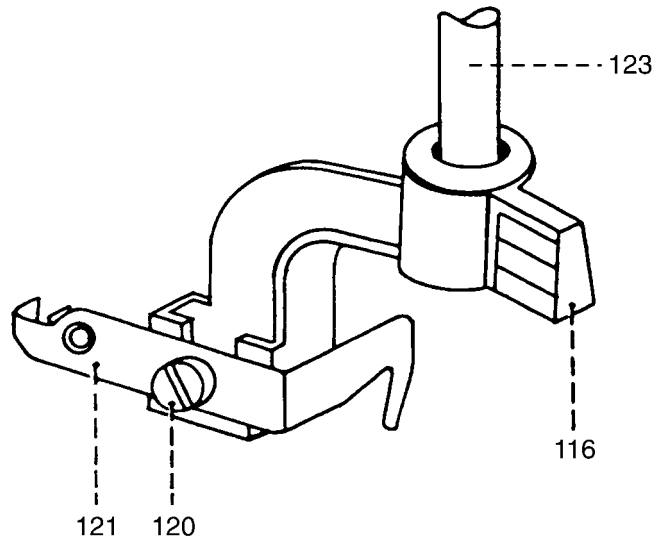

Fig. 70
- Loosen screw 120 by just 1/8 of a turn (fig. 70).